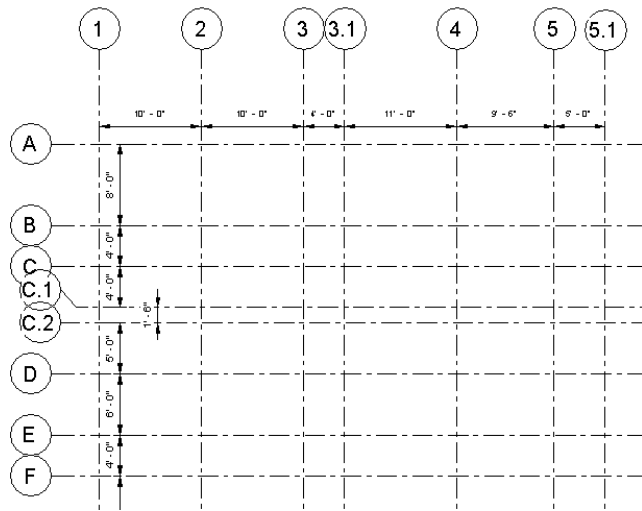
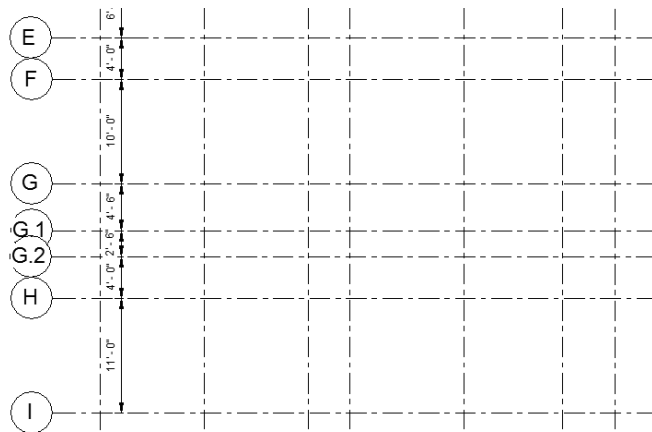

Figure 3-53 The horizontal grid lines to be created with the specified names and distances
Figure 3-54 The remaining horizontal grid lines in continuation of Figure 3-53
24. Repeat steps 20 to 23 to create the rest of horizontal grid lines and rename them, refer to Figures 3-53 and 3-54.
To create the remaining horizontal grids from grid **B** to grid **I** refer to Figures 3-53 and 3-54. Note that both these figures are part of a single grid plan view. Figure 3-54 is the continuation of Figure 3-53 and is displayed separately to show the grid dimensions clearly. Further, the horizontal grids will be renamed using the same method used for vertical grids.